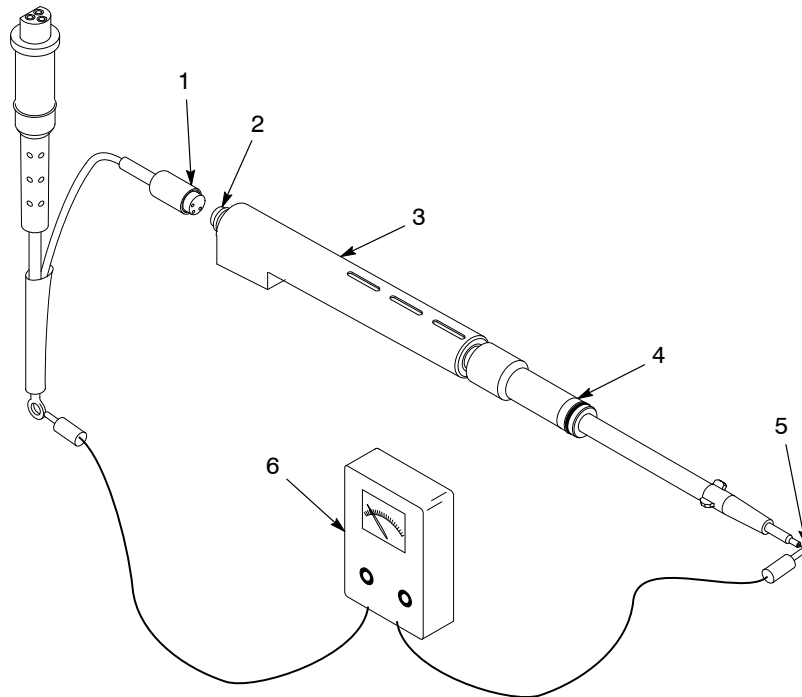

Figure 6-1 Multiplier and Electrode Assembly Resistance Check
CAUTION: Short all three pins in the multiplier connector before checking the continuity and resistance of the multiplier and electrode assembly. If not shorted, the multiplier could be damaged. Use the optional shorting plug shown in Figure 6-1.
3. See Figure 6-1. Connect the shorting plug (1) to the multiplier connector (2).
4. Connect the megohmmeter (6) probes to the shorting plug ring-tong terminal and electrode (5). If the reading is infinite, switch the probes.
See Figure 6-1.